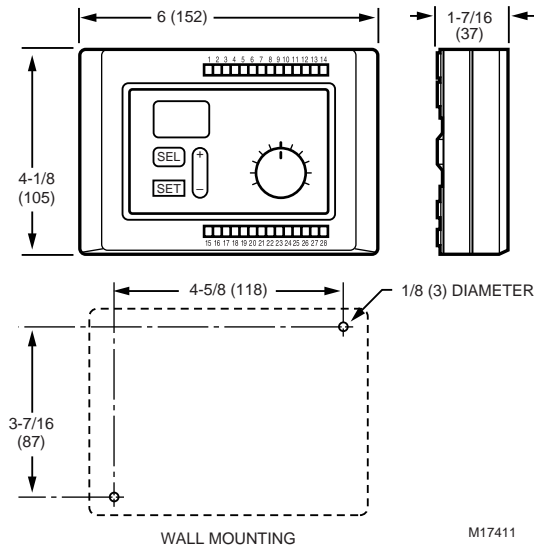

Fig. 1. R7426 Dimensions.
Dimensions: See Fig. 1.
1. Drill two holes in the mounting surface (see Fig. 1).